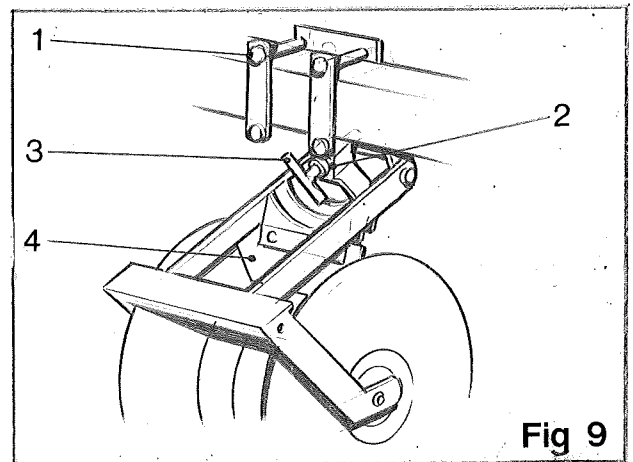

Fig 9
The diablo rollers control the digging depth whilst at the same time ensuring even digging with the help of compensator springs (item 1, fig 6), fitted either side of the harvester. The diablo rollers are adjustable for different row settings and for depth. The row setting adjustment is the same as the disc coulter, by loosening the four retaining bolts (item 1, fig 9). To adjust the depth of the diablo rollers, slacken the lock nut (item 2, fig 9) and turn the adjusting screw (item 3, fig 9) until the rollers are correctly adjusted. Again as the disc coulters, the diablo rollers are fitted with scrapers (item 4, fig 9) and these should be kept as close to the roller as possible.